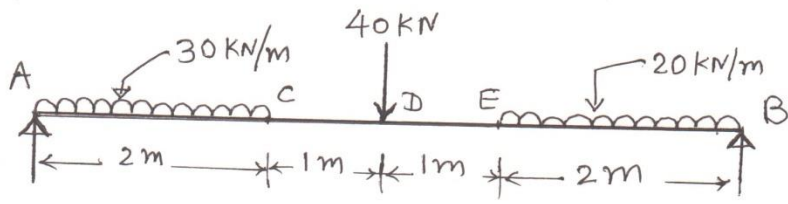

fig.1 Q.2cd)
- (d) Draw Shear force and Bending moment diagram for a Beam as shown in fig.1 **04**